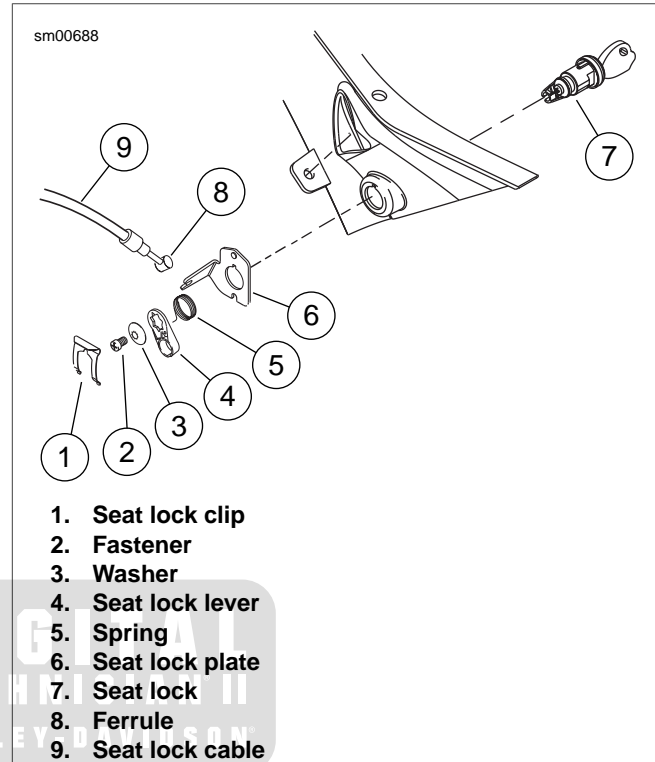

Figure 2-202. Seat Lock and Cable Assembly: Firebolt
3. See Figure 2-202. Disconnect passenger lock cable (9) by removing cable from seat lock plate (6) and ferrule (8) from seat lock lever (4).
4. Remove seat lock lever (4) by removing fastener (2) and washer (3) from seat lock (7).
5. Remove spring (5).
6. Remove seat lock clip (1) by sliding from seat lock plate (6).
7. Remove seat lock plate (6) and seat lock (7).
1. See Figure 2-202. Install the seat lock (7) on to upper tail body work.
2. Install seat lock plate (6) by aligning plate tab onto seat lock (7).
3. Install seat lock clip (1) by sliding clip aligning clip groove onto seat lock plate (6) tab.
4. Position short tab of spring (5) into seat lock notch.
5. Position long end of spring into the seat lock lever (4).
6. Load the spring (5) by turning the seat lock lever (4) counterclockwise 1/4 turn.
7. Once the spring is loaded, install the seat lock lever (4) onto the lock aligning the lever to the square groove that is cast into the seat lock (7).
8. Fasten the lock lever (4) to the seat lock (7) with the washer (3) and fastener (2).
9. Install the ferrule (8) of the seat lock cable (9) into the seat lock lever (4).
11. Install the seat lock cable (9) into the seat lock plate (6).